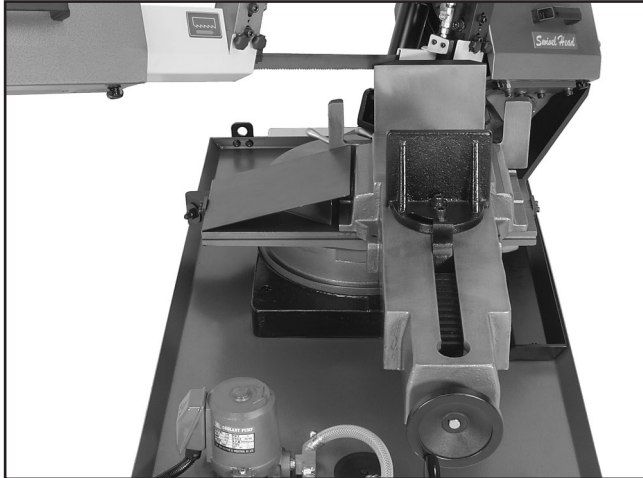

Figure 16. Vise to the right.
4. Pull the vise all the way to the opposite side of the base and lock it in position (see **Figure 16**).